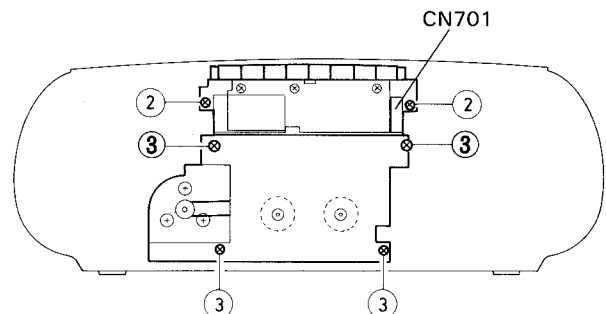

Fig. 3-2
- Remove CN701 to the right of the switch. (See Fig. 3-2.) Pull the wire straight forward.
- Remove the 2 screws ② fastening the LCD/switch circuit board holder.